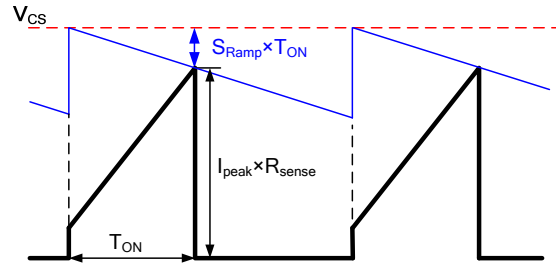

Figure 9: Slope Compensation Waveform
Figure 9 shows the slope compensation waveform. When the sum of the sense resistor voltage and the slope compensation voltage reaches the peak current limit (V_{CS}), the HF900 turns off the internal MOSFET. The maximum peak current limit is 0.97V (V_{CS} , typical value), and the slope compensation slew rate is 40mV/ μ s. Considering the margin, use $0.95 \times V_{CS}$ as the peak current limit at full load. The voltage on the sense resistor is given using Equation (13):